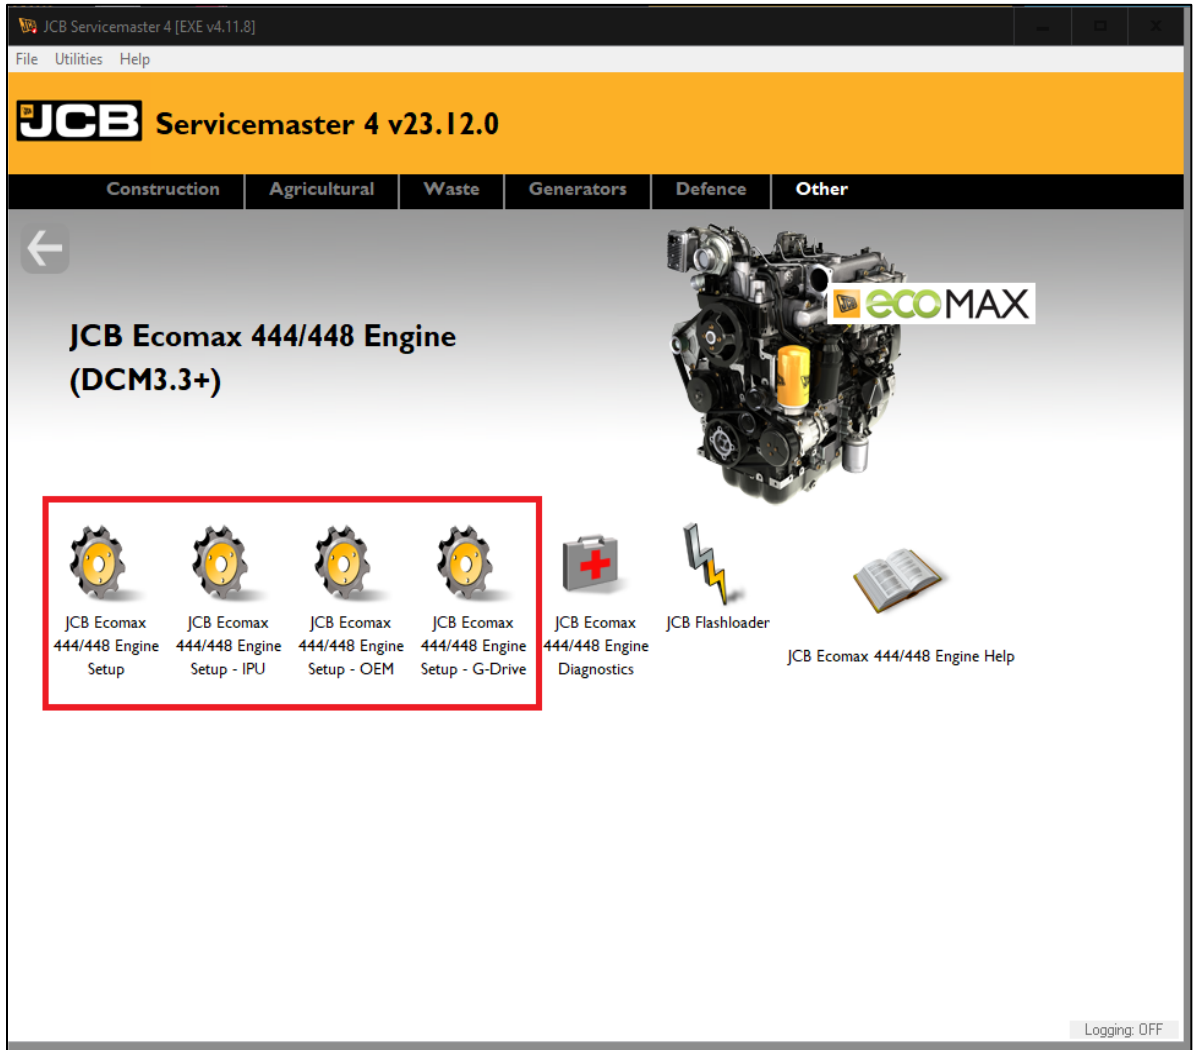

Figure 3
3. Find the appropriate EcoMax Engine Setup tool for the machine you are working on. If this is a machine such as Telescopic Handler or Backhoe Loader, please use the engine setup tool within those sections of the Service Master tool. In the example below, we will be using a G-Drive (Generator) machine, so the 'EcoMax 444/448 Engine Setup – G-Drive' tool will be used. See figure 3 below.